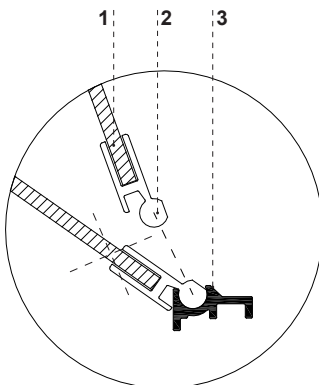

Fig.11 Removing the front window
- ⚠ While cleaning the inside, do not leave the front glass free repleated in aluminium-pressure profile. Doing so may damage the glass and is not under the warranty. The glass for the time of maintenance should be removed together with the profile. Fig.11 (p.23).